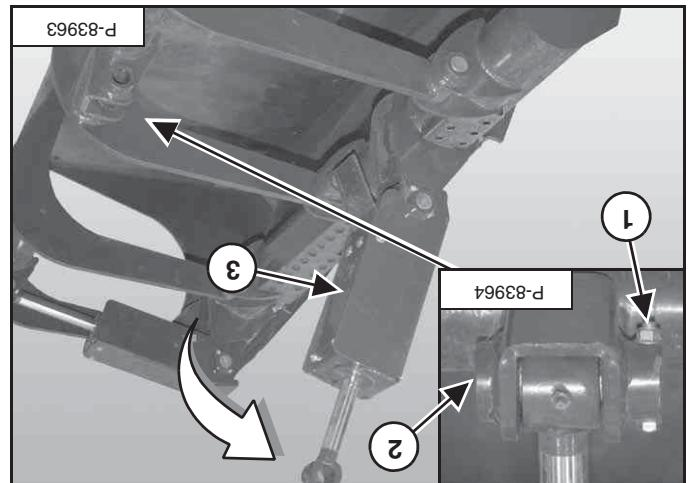

Figure 99
Rotate the cylinder (item 3) [Figure 99] upward.
Remove the bolt and nut (item 1), remove the cylinder pin (item 2) [Figure 99].